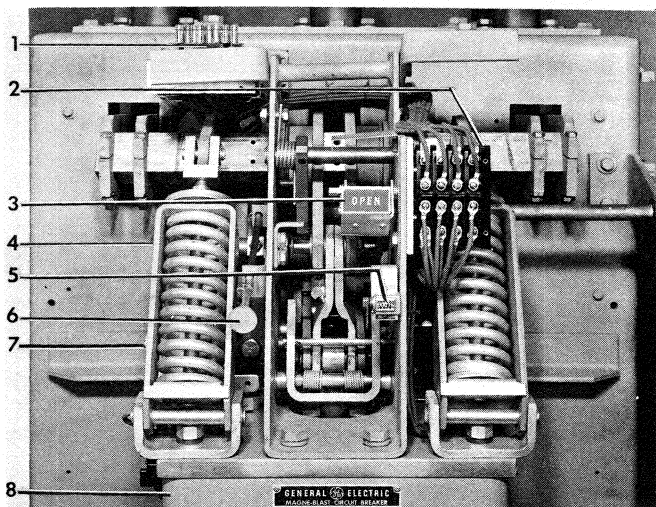
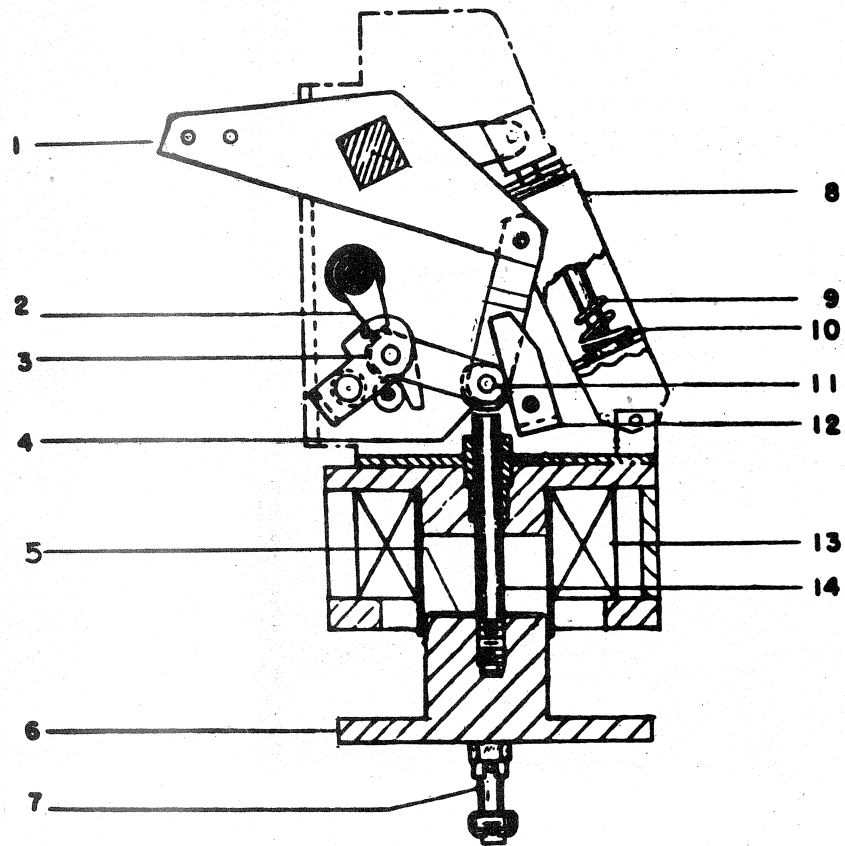
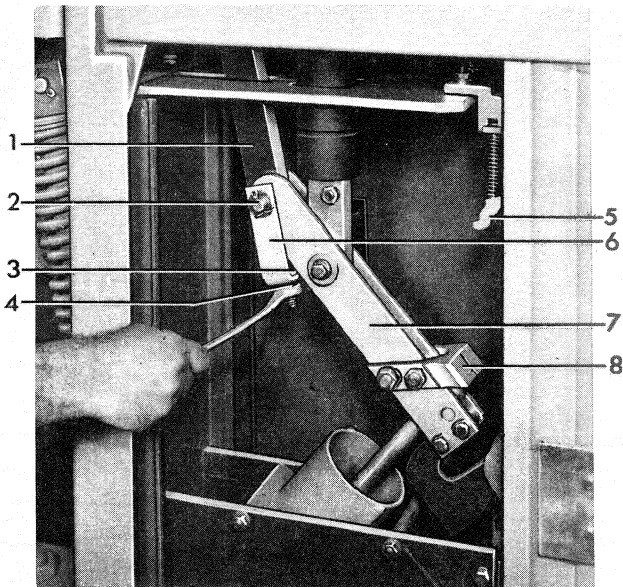
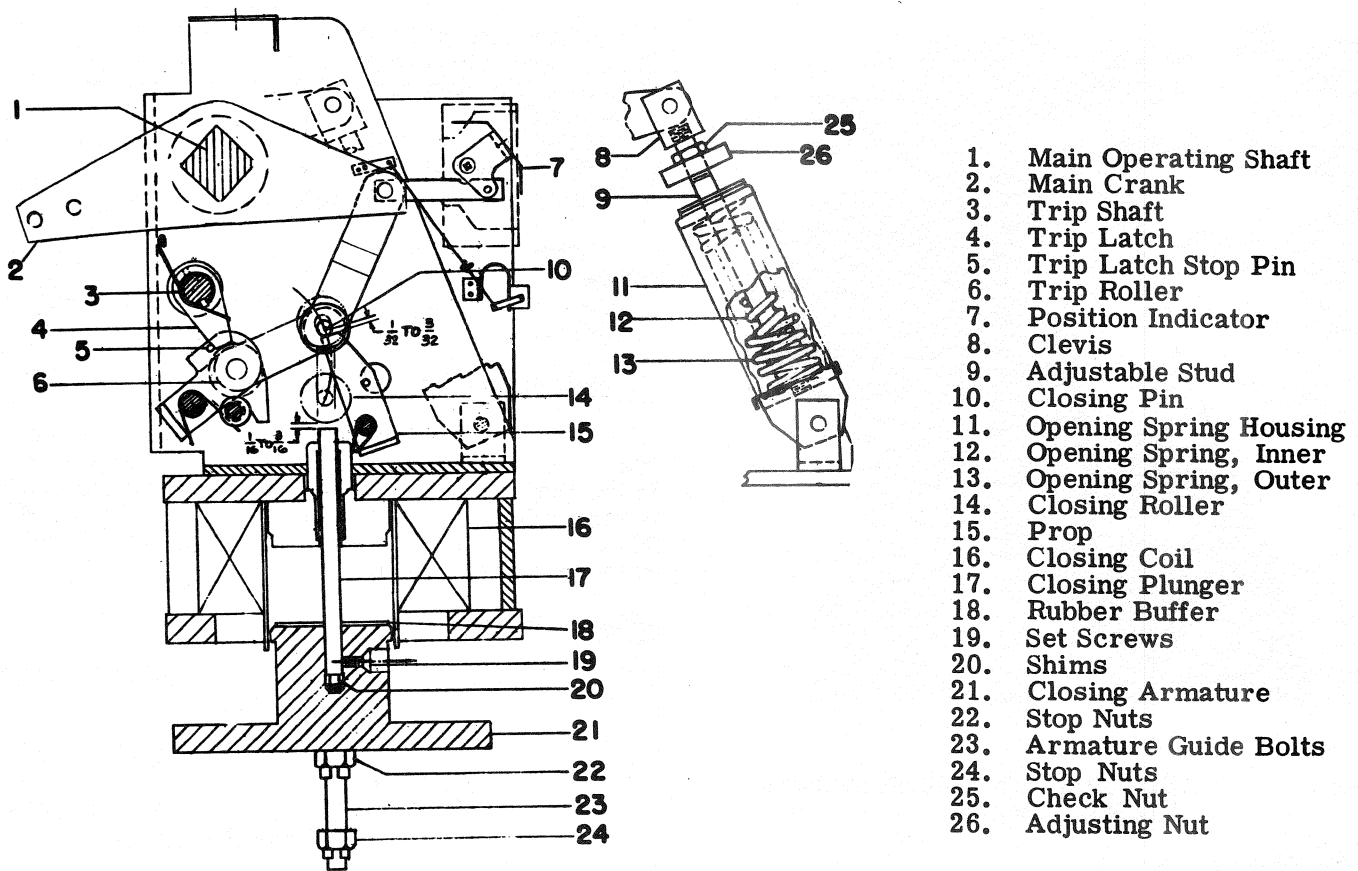

Figure 2 (8029611) MS-13 Operating Mechanism
Figure 4.(0137A7682) Cross Section of MS-13 Operating Mechanism in the Open Position.
Figure 8. (8038802) Adjustable Coupling For Making Primary Contact Wipe Adjustments
Figure 9. (0962C0772) Cross Section of MS-13 Mechanism in closed position.
metal-clad unit are made through the coupler (1) Figure 2.
the closing coil operates. Closing operations are controlled electrically from the metal-clad unit and remote location. The trip solenoid will operate on a-c or d-c voltage as indicated on the breaker nameplate. Opening operations are controlled either electrically from the metal-clad unit and remote location, or mechanically by the manual trip lever (6) Figure 2 on the breaker.
As the main contacts of the control device close, the breaker closing coil is energized. This raises the armature (6) Figure 4 which in turn lifts the closing roller (4) through plunger (14). This motion is transmitted through the mechanism linkage, and rotates the main crank (1), closing the breaker contacts. As the armature reaches the end of its travel, the prop (12) rotates beneath the pin (11) latching the breaker in the closed position. Through out the closing operation the mechanism is trip-free at all times.
The breaker can be opened either electrically by energizing the trip coil (1) Figure 25 or manually by pushing the trip lever (6) Figure 2. In each method the trip latch (2) Figure 4 is rotated off the trip latch roller (3) permitting the operating mechanism linkage to collapse. The energy stored in the opening springs is released to provide the required opening speed for successful interruption of the circuit. During this operation the trip coil circuit is de-energized, and upon completion of the opening operation, the operating mechanism is returned to its normal position, ready for closing.
If the trip coil circuit is energized while the breaker is closing, the trip armature will force the trip latch (2) Figure 4 away from the trip roller (3) causing the mechanism linkage to collapse and the breaker to re-open. The closing armature (6) completes its closing stroke, the closing coil is de-energized at the end of the stroke and the armature is returned to its original position by gravity.
that the prop pin (11) Figure 4 is resting on the prop. To obtain the proper contact adjustment, open the breaker and, referring to Figure 8, loosen the check nut (4) and turn the adjusting nut (3). Screwing up on the adjusting nut will decrease the primary contact wipe, down will
Refer to Figure 8. With the breaker closed, press the manual trip button allowing the breaker to trip open normally. Do not force the contacts open wider by hand. The gap between the stationary primary contacts (5) and the movable primary contacts (8) measured between the closest points, should be 5-1/8" to 5-9/16". To change this gap, loosen the check nut (25) Figure 9, and turn the adjusting nut (26) on stud (9). Screwing the adjusting nut down will decrease the primary contact gap. Tighten the check nut and re-measure the contact gap (close and trip the breaker before checking the measurement).
Refer to Figure 9. The wipe of the trip latch (4) on the trip roller (6) should be from 3/16" to 1/4". This can be measured by putting a film of grease on the latch, closing the breaker part way, and tripping. The mechanism has the proper trip latch wipe when the latch rests against the stop pin (5). No adjustment is provided and a visual inspection is usually all that is required. If this setting is not correct, look for insufficient travel of the trip shaft (3).
Refer to Figure 9. With the breaker closed as far as possible with the maintenance device, the clearance between the closing pin (10) and the prop (15) should be 1/32" to 3/32". Measure the prop clearance with a feeler gauge to determine whether or not an adjustment should be made, and if so, exactly how much adjustment will be required. To make the adjustment, it will first be necessary to open the breaker and remove the maintenance operating device. Remove the stop nuts (22 and 24) being careful not to drop the armature (21). Lower the armature from the mechanism and remove the two set screws (19). Remove the closing plunger (17) from the armature and add or subtract the necessary thickness of shims (20) to give the required adjustment, then replace the closing plunger, screwing it down against the shims. Using a small drill, spot the closing plunger through the set screw hole. Replace the set screws. Remount the armature on the breaker. After reassembly, remount the maintenance closing device and check the adjustment.
Refer to Figure 9. With the breaker in the open position, the clearance between the closing plunger (17) and the closing roller (14) should be 1/16" to 3/16". To obtain this clearance, the nuts (22) on the two armature guide bolts (23) may be raised or lowered. Both nuts should be moved the same amount. After making an adjustment, close and open the breaker and re-check the plunger clearance.
Operate the solenoid armature plate (12) with the maintenance closing device. The control device plunger (9) should not travel more than $3/32$ " from the point where the control device trips until the prop (15) Figure 9 falls in place. The plunger should travel a minimum of $1/32$ " after tripping the control device. The control device arm (7) Figure 3 should have a minimum of $1/32$ " overtravel with the plunger fully raised by the armature plate.